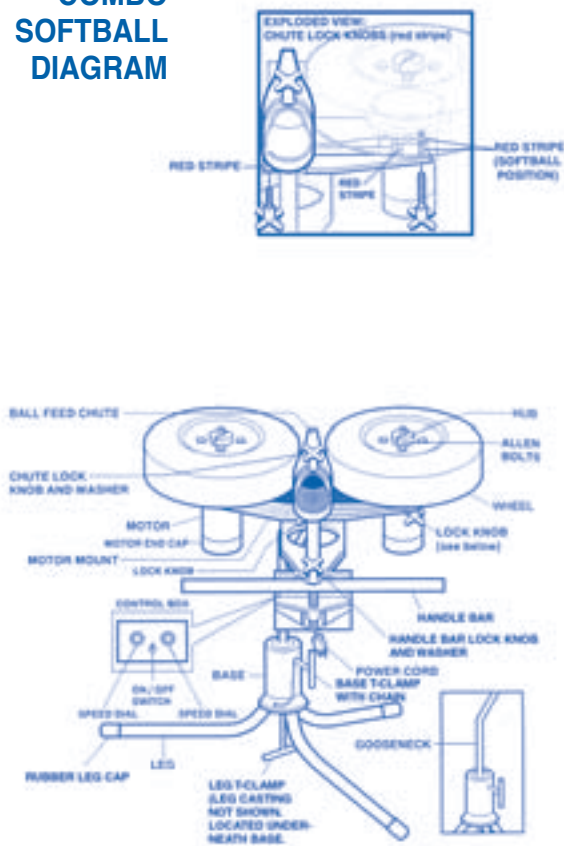

Figure 4
3. Place the curved ends of the three short legs in sockets so that the distance between the legs is the same. (See Figure 4.)